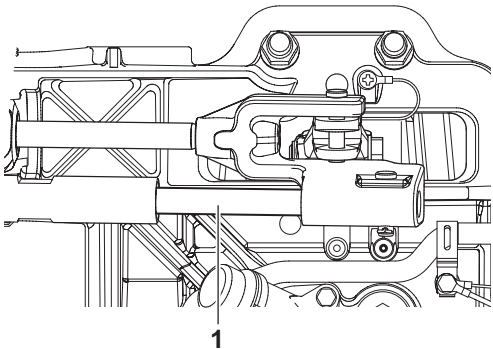

Figure 4-6
- 2. Turn the steering wheel until the steering cable (**Figure 4-6, 1**) is fully extended. Lightly lubricate the exposed part of the cable.